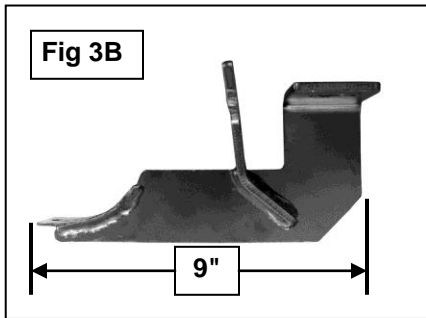

Fig 3B
5. Repeat **Steps 2 – 4** for Center and Rear Mounting Bracket installation. Use the instructions to correctly identify the Brackets, **(Figures 3B, 3C, 3D & 4)**.